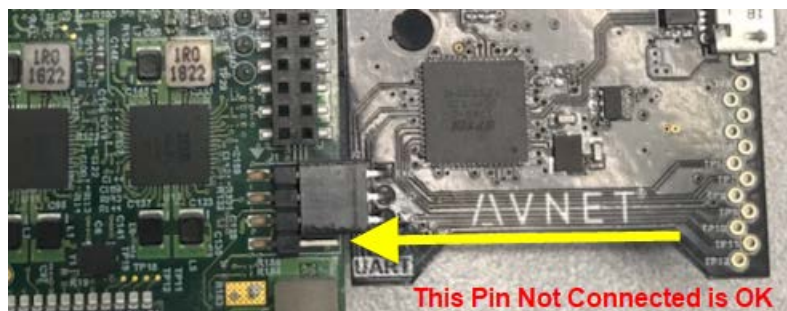

Figure 6 – JTAG/UART Pod Alignment
3. If you will be using a USB-to-JTAG/UART Pod, plug that into J1 and J3 before plugging in 12V power. Note that some Pods only have 3-pin and 7-pin receptacles, which is compatible with the 4-pin and 8-pin headers on Ultra96-V2 (align as seen in Figure 6 below).